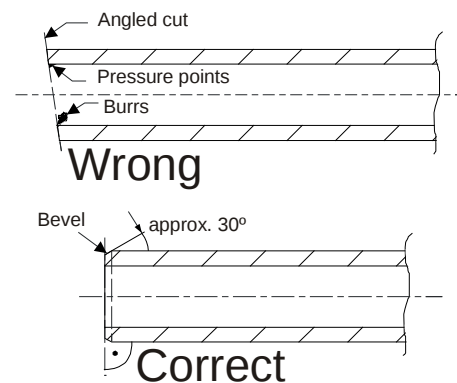

Fig. 21 Cutting the tubes
- The tubes must be cut with a pipe cutter to required lengths. In doing so, ensure that the cut is at a right-angle to the tube axis. Any projecting burrs must be removed (**Fig. 21**).
- The ends of the individual tube pieces are to be slightly angled with a suitable tool, e.g. slightly bevel with a pipe peeler (**Fig. 21**).